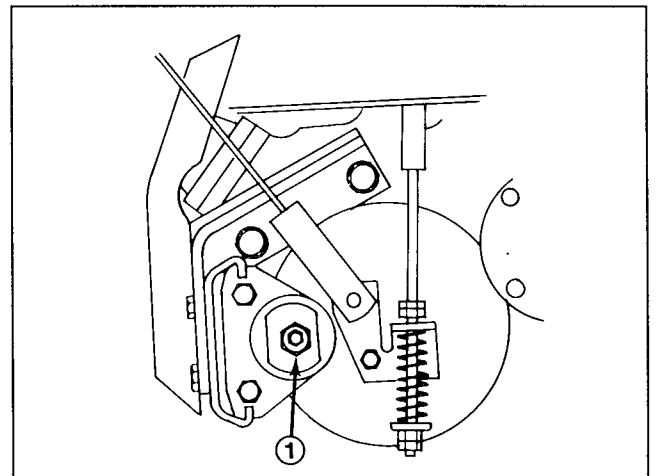

Figure 51
2. Tighten the caliper brake inboard adjustment nut (Fig. 51) until the brake disc cannot be rotated by hand.